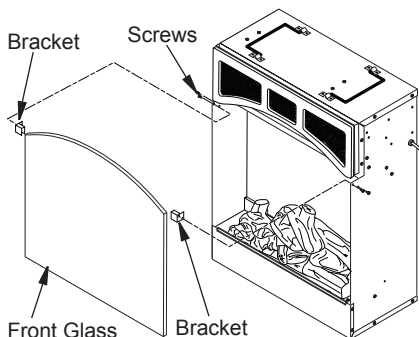

Figure 9 - Removing Brackets and Front Glass
4. Carefully remove front glass and brackets (see Figure 9).
2. Remove screws from each side of log that secures log to base and remove log (see Figure 9, page 8).